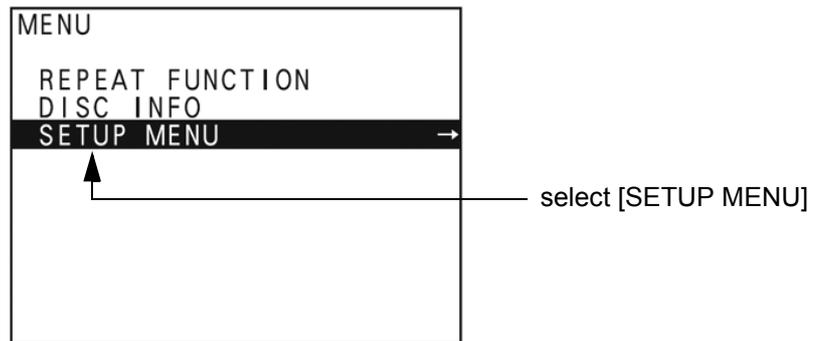

Figure 3-83 "Main Menu" - [SETUP MENU] highlighted
- 3.) The "Main Menu" appears on the LCD screen of the DVD recorder, see: Figure 3-83 below.